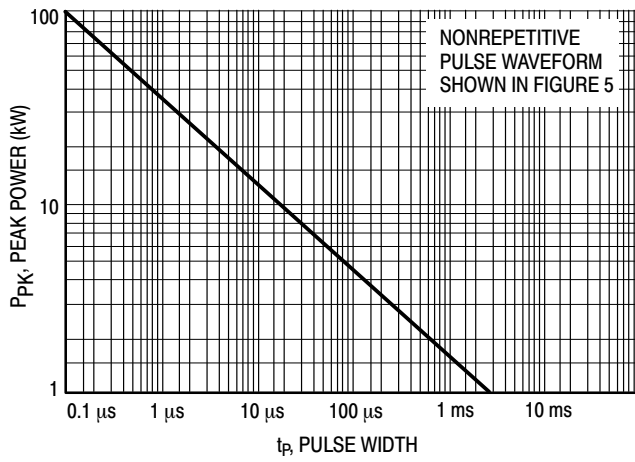
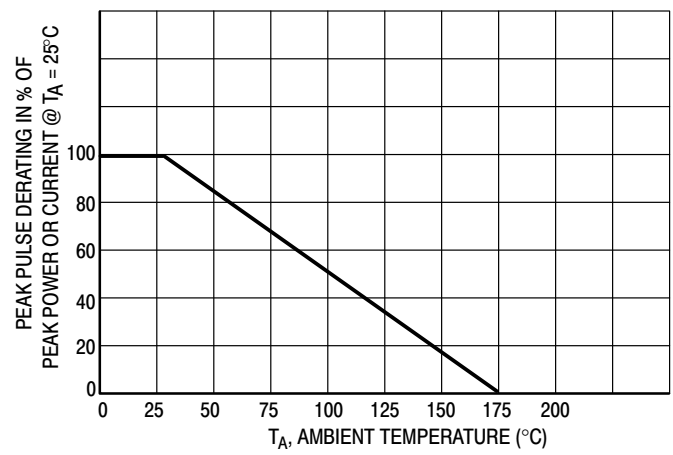
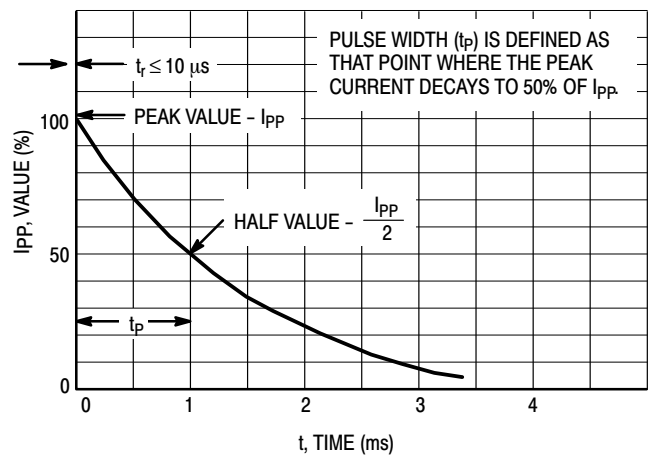
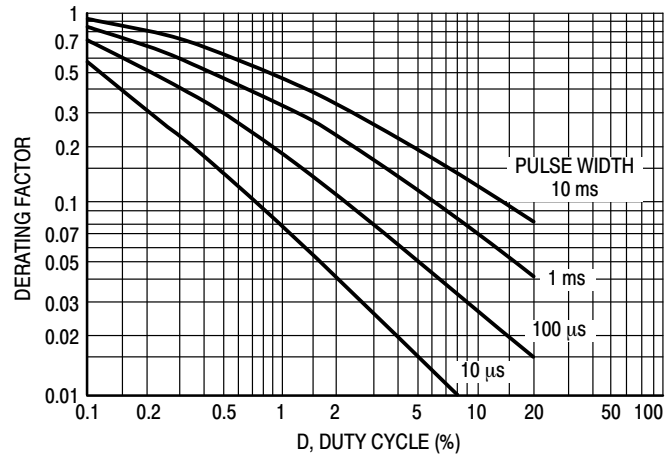

Figure 1. Pulse Rating Curve
Figure 2. Pulse Derating Curve
Figure 5. Pulse Waveform
Figure 7. Typical Derating Factor for Duty Cycle
1. Nonrepetitive current pulse per Figure 5 and derated above  $T_A = 25^\circ\text{C}$  per Figure 2.
6. Surge current waveform per Figure 5 and derate per Figures 1 and 2.
The data of Figure 1 applies for non-repetitive conditions and at a lead temperature of 25°C. If the duty cycle increases, the peak power must be reduced as indicated by the curves of Figure 7. Average power must be derated as the lead or ambient temperature rises above 25°C. The average power derating curve normally given on data sheets may be normalized and used for this purpose.
At first glance the derating curves of Figure 7 appear to be in error as the 10 ms pulse has a higher derating factor than the 10 μs pulse. However, when the derating factor for a given pulse of Figure 7 is multiplied by the peak power value of Figure 1 for the same pulse, the results follow the expected trend.